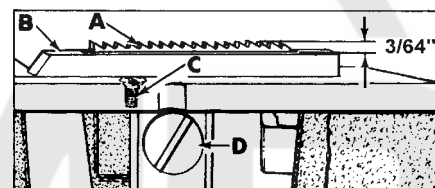

Fig 10
Feed dog (A, Fig. 10) should be centered in throat plate (B) with equal clearance on all sides and ends with feed travel set to desired stitch length. At highest point of travel, tips of feed dog teeth should extend the depth of $\frac{3}{64}$ " above throat plate and parallel to same. Screw (C) should be set to support feed dog after screw (D) has been loosened which secures feed dog in position.